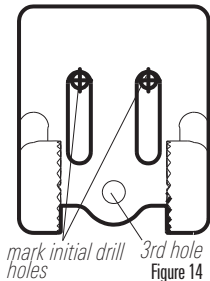

Figure 14
3. Continue to hold the bracket on the transom of the boat, and use a pencil or marker to mark where to drill the two mounting holes. Mark the drill holes near the top of each slot, making sure that your mark is centered in the slot (Figure 14).